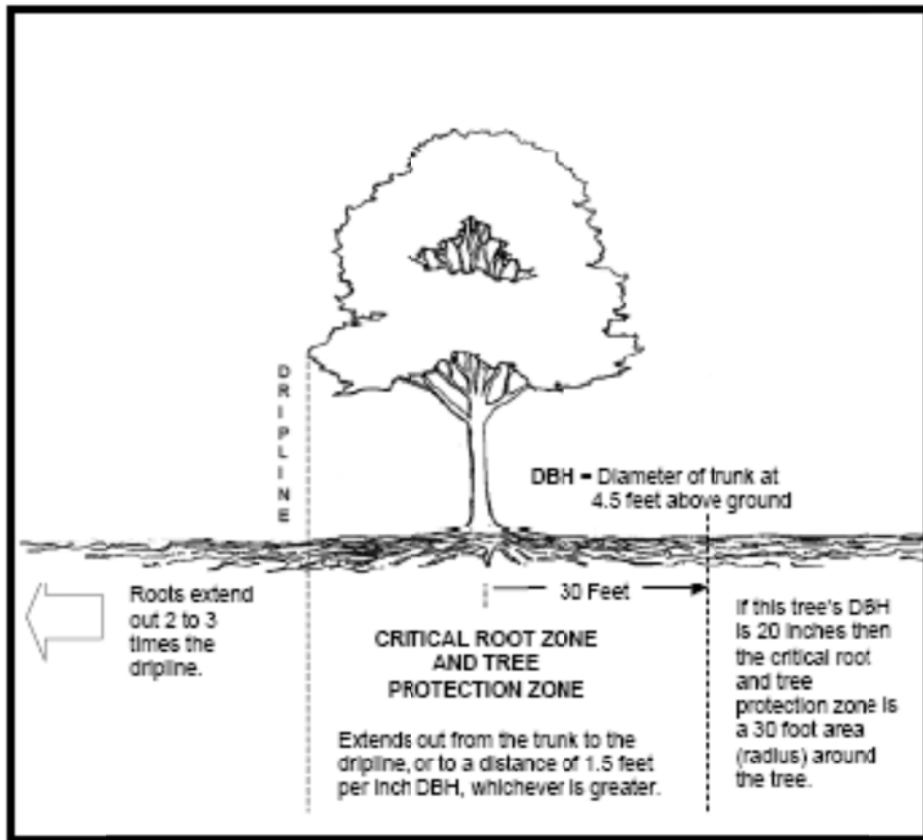

Figure 1. Location of the Critical Root Zone and Tree Protection Zone
1.11.3. For existing trees, there is a minimum amount of area, above (for the trunk and crown) and below ground (for soil health and the root system) that is required to protect trees and preserve tree health. This area has been identified as the critical root zone (CRZ) or tree protection zone (TPZ) by various experts and is generally agreed to be equivalent to the soil area below ground and the space above ground defined by the tree's dripline, or the greatest extent of the branches. This is depicted in Figure 1